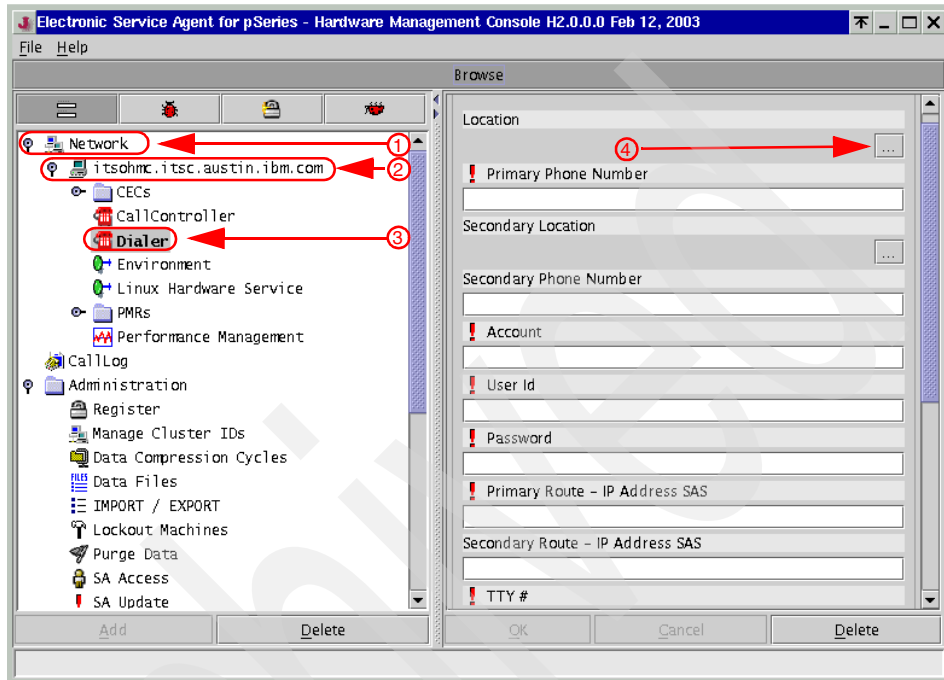

Figure 12-2 Service Agent - blank dialer configuration
14. As shown in Figure 12-2, click **Network** in the Navigation area (number 1 in the figure), click the icon representing your HMC (number 2), then click **Dialer** (number 3).
15. In the right pane in Figure 12-2, click the box containing the ellipsis (...) next to the field labeled Location (number 4 in the figure). The IGN Phone List window opens as shown in Figure 12-3 on page 284.
17. In the right pane in Figure 12-2 on page 283, click the ... next to the field labeled Secondary Location. Select the secondary phone number in the IGN Phone List window.